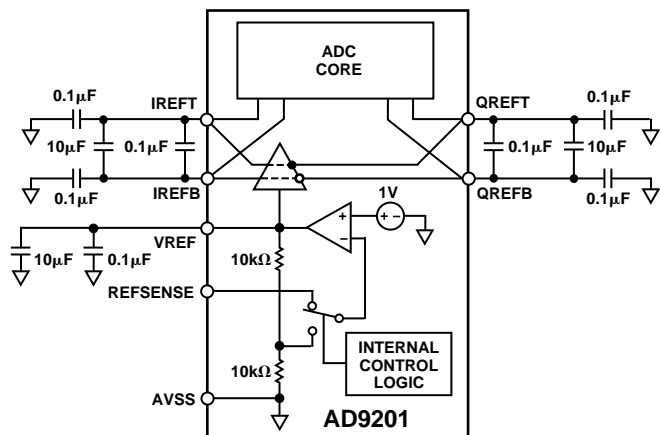

Figure 26. Reference Buffer Equivalent Circuit and External Decoupling Recommendation
The reference and buffer circuitry on the AD9201 is configured for maximum convenience and flexibility. An illustration of the equivalent reference circuit is shown in Figure 26. The user can select from five different reference modes through appropriate pin-strapping (see Table I below). These pin strapping options cause the internal circuitry to reconfigure itself for the appropriate operating mode.
**Reference Buffer**—The reference buffer structure takes the voltage on the VREF pin and level-shifts and buffers it for use by various subblocks within the two A/D converters. The two converters share the same reference buffer amplifier to maintain the best possible gain match between the two converters. In the interests of minimizing high frequency crosstalk, the buffered references for the two converters are separately decoupled on the IREFB, IREFT, QREFB and QREFT pins, as illustrated in Figure 26.
For best results in both noise suppression and robustness against crosstalk, the 4 capacitor buffer decoupling arrangement shown in Figure 26 is recommended. This decoupling should feature chip capacitors located close to the converter IC. The capacitors are connected to either IREFT/IREFB or QREFT/QREFB. A connection to both sides is not required.